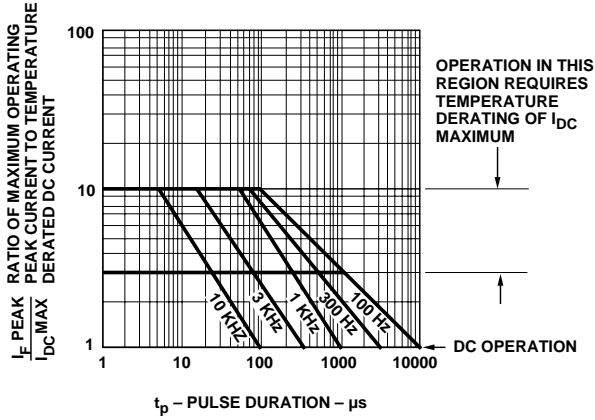

Figure 4. Maximum Tolerable Peak Current vs. Pulse Duration - HER.
2. See Figure 4 to establish pulsed conditions.